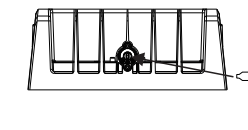

figure 7.1
1. Take the lamp out of the packing box, take out the handle configured in the packing box,and insert it into the slot of the knob.(figure 7.1)